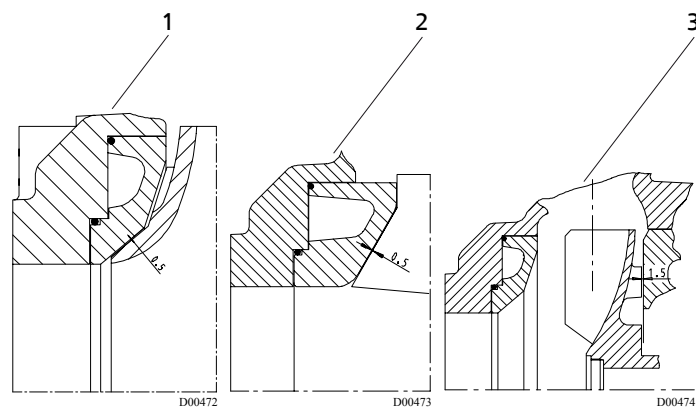

Fig. 22: KWP clearances
- 6. Adjust the clearance between the impeller and the wear plate as indicated in figure 22 and the table on clearances.